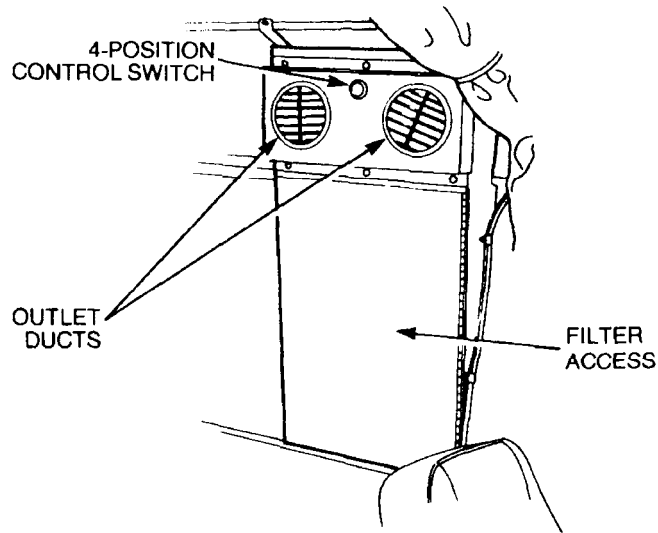

Figure 2 Forced Air Ventilator
11. A forced air ventilator is fitted to the left side of the upper body behind the passenger seat (Figure 2). The ventilator has the following specifications: